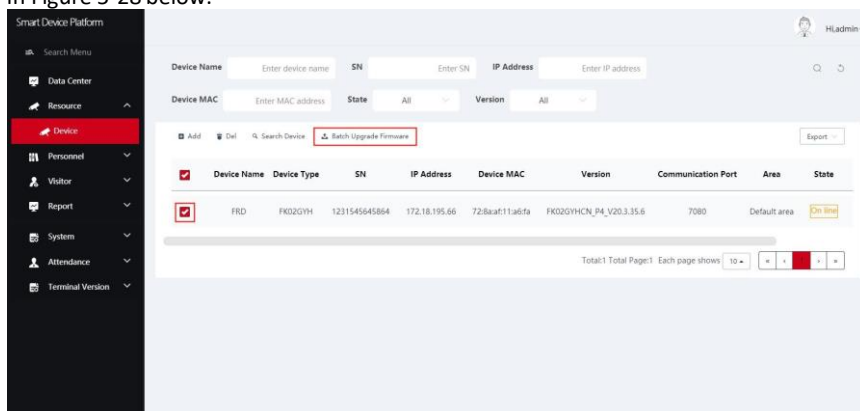

Figure 5-28
Step 6: Select the device to upgrade, click " Batch Upgrade Firmware ", as shown in Figure 5-28 below.